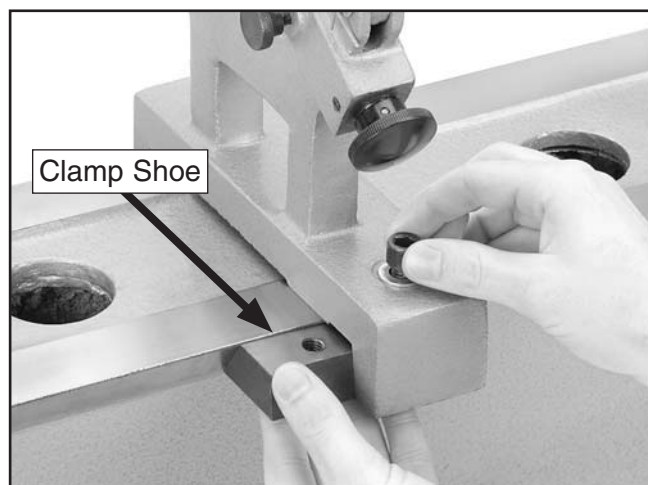

Figure 47. Installing steady rest clamp shoe.
1. Remove the cap screw and clamp shoe from the steady rest base (see **Figure 47**), place the steady rest on the bedway, then re-install the clamp shoe to secure it in place.